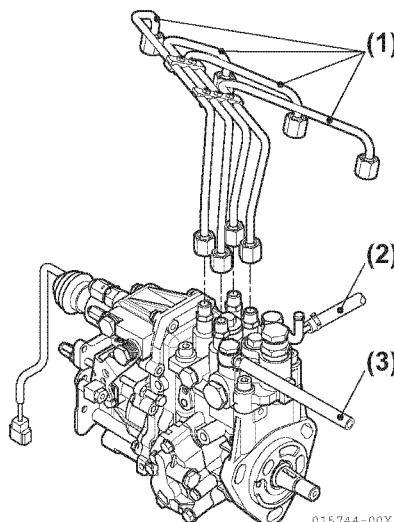

Figure 6-54
5. Remove the high-pressure fuel injection lines as an assembly (Figure 6-54, (1)).
8. Disconnect the fuel return lines from the fuel return fitting (Figure 6-54, (2)). Plug the open ends of the lines to minimize leaks and prevent contamination.
9. Remove the fuel supply line (Figure 6-54, (3)). Plug the open end of the line to minimize leakage and prevent contamination.